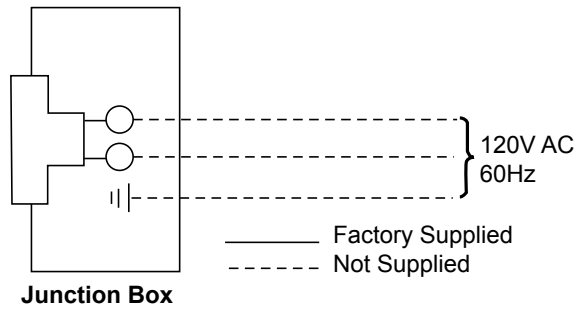

Figure 31 - Junction Box Wiring Diagram
3. The junction box cover has a factory installed “romex” style strain relief connector. After connecting the wires, route the wire leads through this connector. Refer to the wiring diagram in *Figure 31*.
9. Consult blower wiring diagram and start the assembly. *Figures 31 & 34*. It is helpful to wire the right blower, the speed control, the fan limit switch, and the power cord first. Then plug in the power cord to the junction box and secure the right cover plate/blower assembly to the side of the firebox.